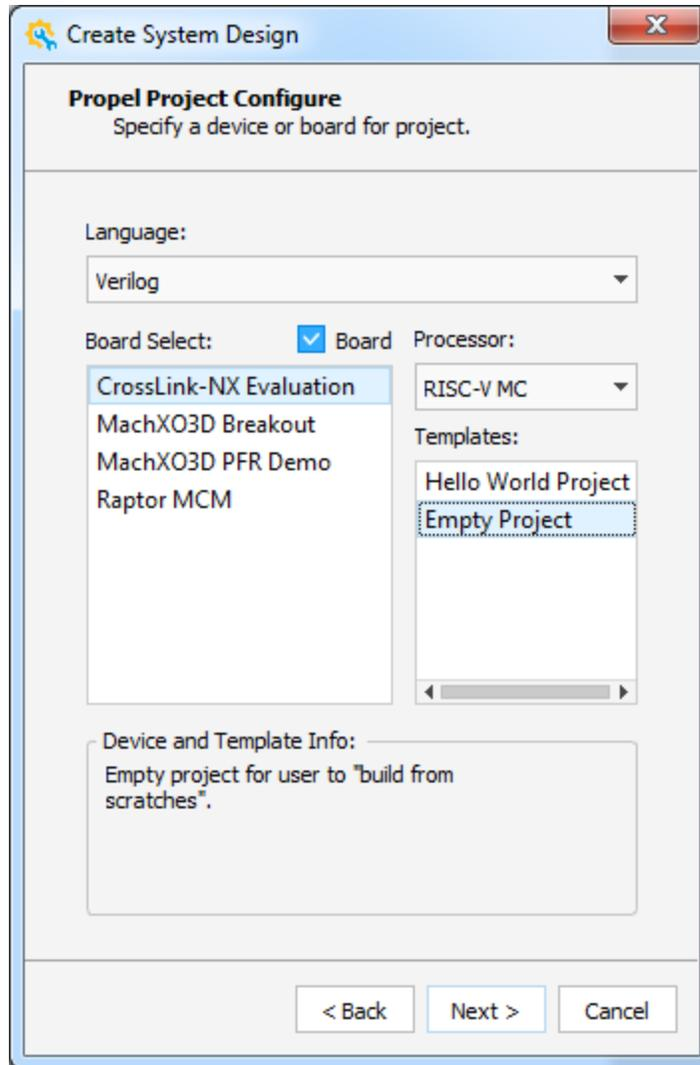

Figure 2.5 Specify a Board for Project
- Click **Board**, Board Select area shows in Propel Project Configure Wizard (Figure 2.5), select desired board such as Crosslink-NX Evaluation.